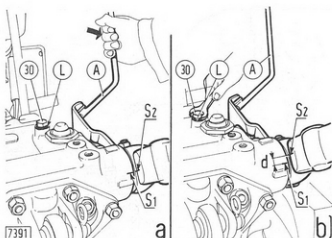

Fig. 225 - Adjusting Lift Lever Travel
- Move control lever (A, Fig. 225) fully upwards to raise the lift levers completely.